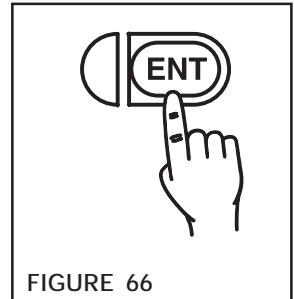

FIGURE 66
2. Press the **ENTER** Key (See Figure 66). The TC820's display will change from 1 to 0.0.